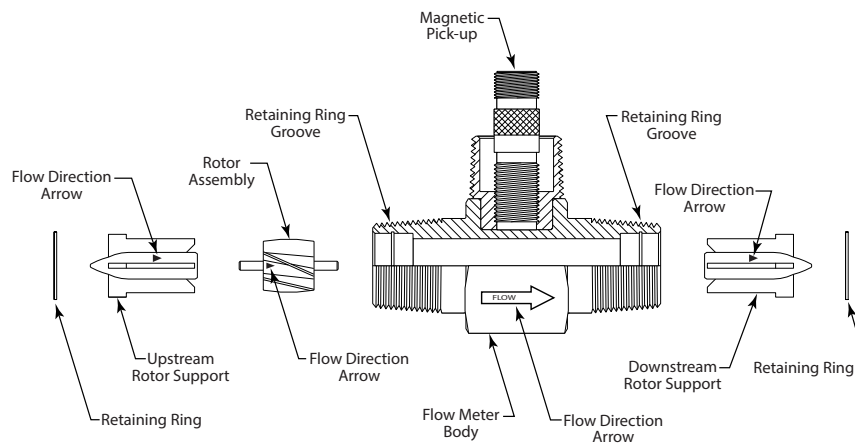
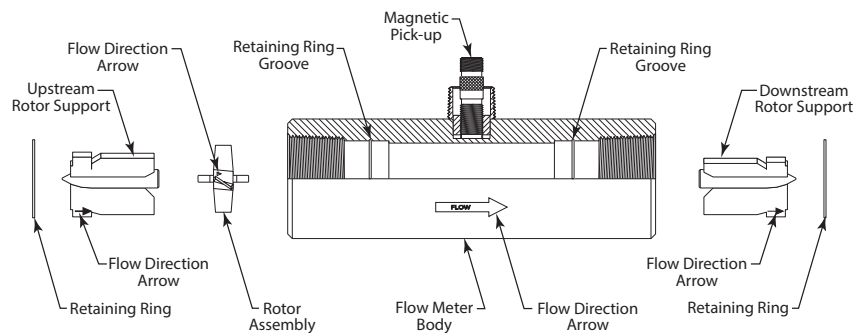
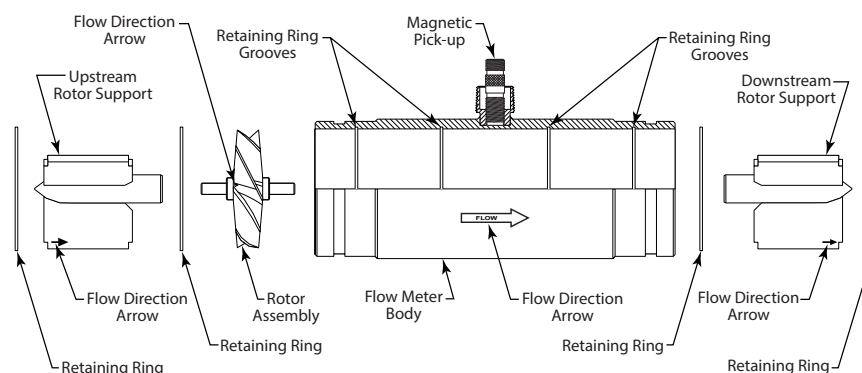

Figure 7: Component positions for B110-375...B111-115 and B111-121
Figure 8: Component positions for B111-120 and B111-130
Figure 9: Component positions for B111-140 and B111-200
1. Refer to *Figure 7*, *Figure 8* and *Figure 9* for relative positions of repair kit components.
NOTE: 4 in. and larger meters have two retaining rings (one on either side of the rotor) that require removal before the rotor can be removed (see *Figure 9*).
Before reassembly, note that an arrow is cast or engraved on each component. The arrow indicates the primary flow direction. When reassembled, the arrowheads must point in the direction of the fluid flow. The arrows must also be oriented in the up position on both rotor supports. The magnetic pickup side of the body signifies the up position. Performance of repair kit calibration is in the up position. Reinstallation of the repair kit in the up position ensures continuation of accurate measurements. Figure 7, Figure 8, and Figure 9 show the proper alignment and orientation of the repair kits.
NOTE: 4 in. and larger meters have a retaining ring at both ends of the rotor (see Figure 9).